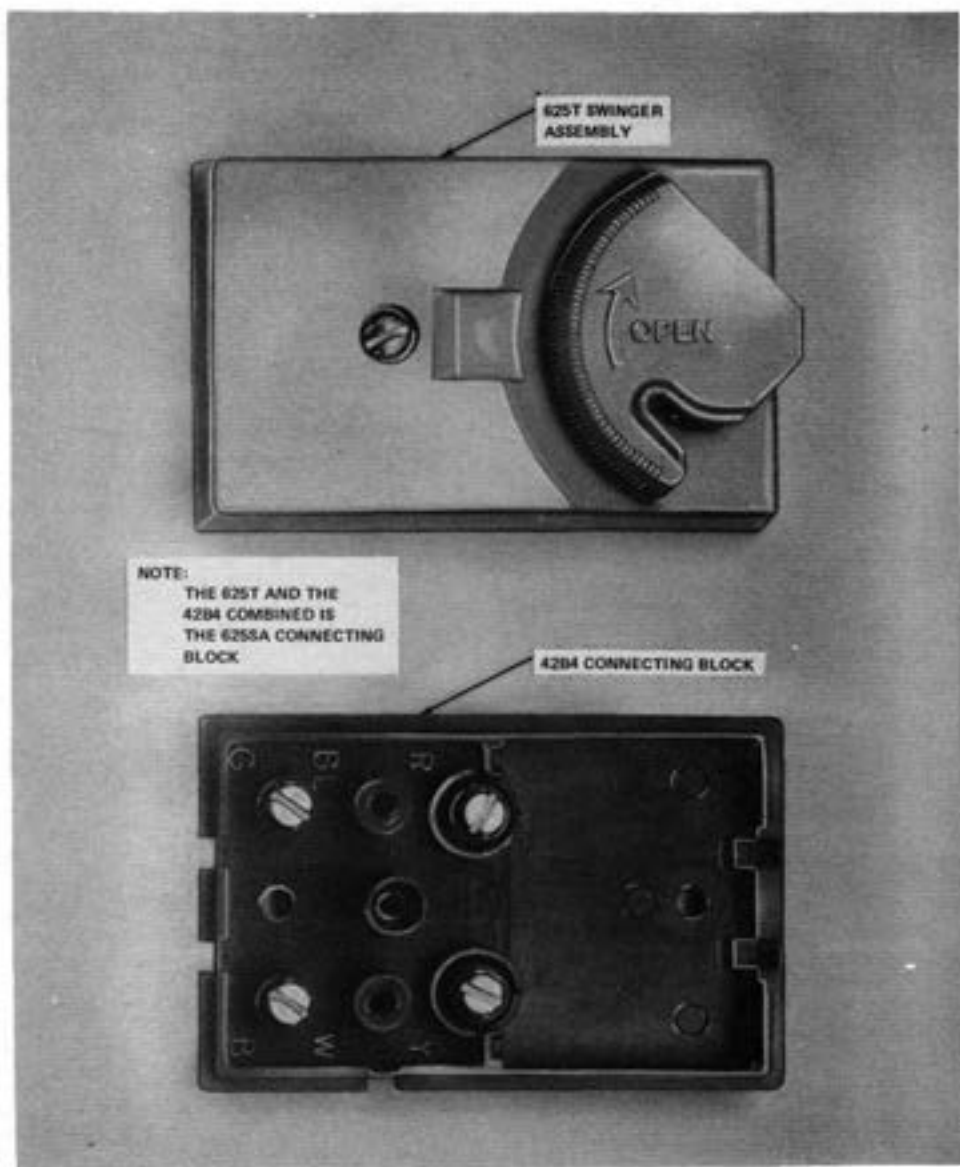

Fig. 7—6255A Connecting Block
2.11 The 625S connecting block consists of a 625T (Fig. 7) swinger-type connecting block and a
2.12 The 625SA connecting block (Fig. 7) is similar to the 625S connecting block. It consists of a 625T swinger-type connecting block and a four screw terminal 42B4 connecting block base. The 42B-type base fits tightly against the 625T connecting block to resist contamination from the surrounding area. The 625SA connecting block is the preferred connecting block to be used in areas where excessive dust, moisture, insects, and other contaminants are present. The 625SA connecting block is available in ivory (-50) or brown (-54).
2.13 The 625S6 connecting block (Fig. 7) is identical to the 625SA connecting block except that it is
2.14 The 625T swinger assembly (Fig. 7) is the cover for the 625S connecting block. It is used to convert existing 42A or 625-type connecting blocks to modularity where extra protection is needed.
- (2) Install the surface-mounted swingers in the horizontal position so the OPEN label is oriented for correct reading (Fig. 7) and place where convenient for ease of connecting and disconnecting the miniplug.
3.09 625S Connecting Block: Mount the 42A connecting block on the wall (preferred) or baseboard so the 625S connecting block cover is positioned as shown in Fig. 7. When mounting on masonry walls, a backboard should always be used.
The horizontal position (Fig. 7) is the preferred position to mount these connecting blocks.¶